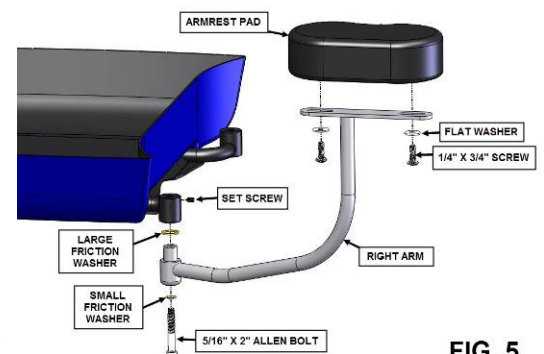

FIG. 5
13. USING FIG. 5 ASSEMBLE THE RIGHT SIDE ARMREST BUT DO NOT TIGHTEN THE SET SCREW.